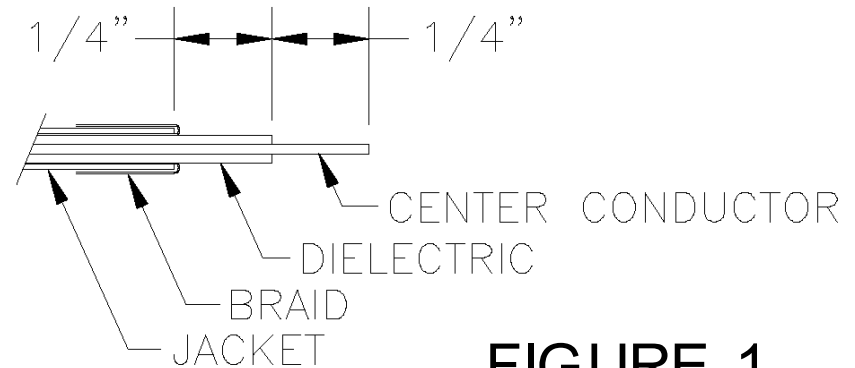

FIGURE 1
- B. Expose 1/4" center conductor and 1/4" dielectric as shown in Figure 1.